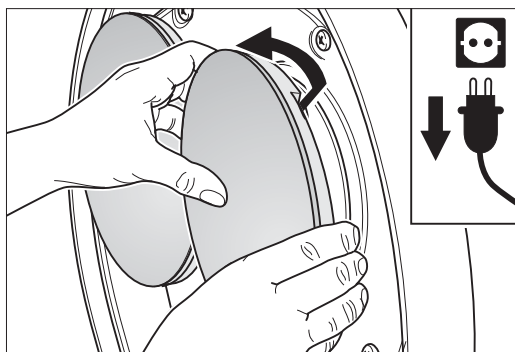

Fig. 7 Grasp the gear edges with your fingers and pull it out of the rubber jigs.
- 5 To remove gear, grasp its edges with your fingers and pull it out of the rubber jigs of the bearing (Fig. 7).